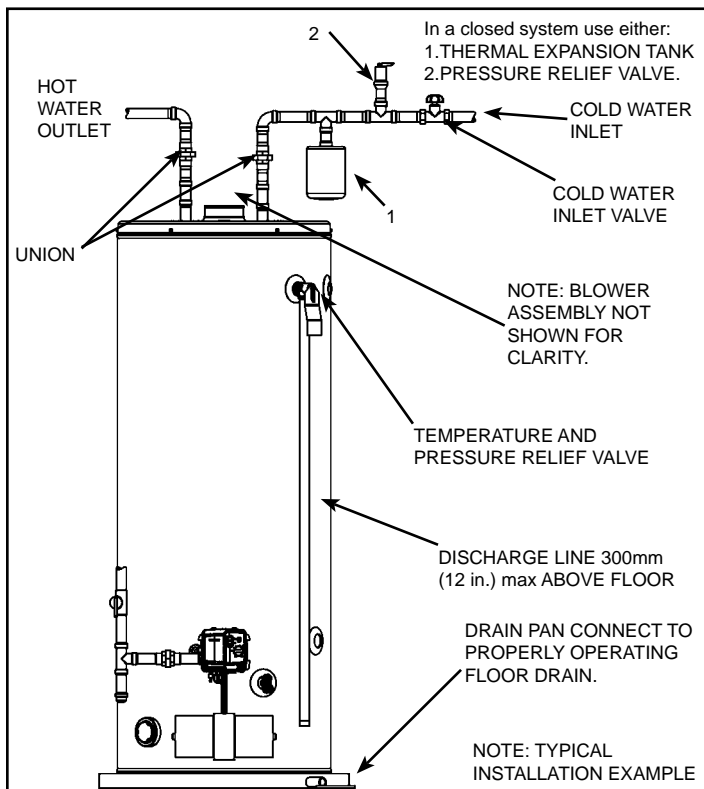

Figure 28
Piping, fittings, and valves should be installed according to the installation drawing (Figure 28). Water supply pressure should not exceed 550 kPa (80psi). If this occurs a pressure reducing valve and/or an expansion tank may be required. The pressure reducing valve should be placed on the supply to the entire house in order to maintain equal hot and cold water pressures.
1. Install the water piping and fittings as shown in Figure 28. Connect the cold water supply to the fitting (3/4" NPT) marked "COLD" (or "C"). Connect the hot water supply to the fitting (3/4" NPT) marked "HOT" (or "H").